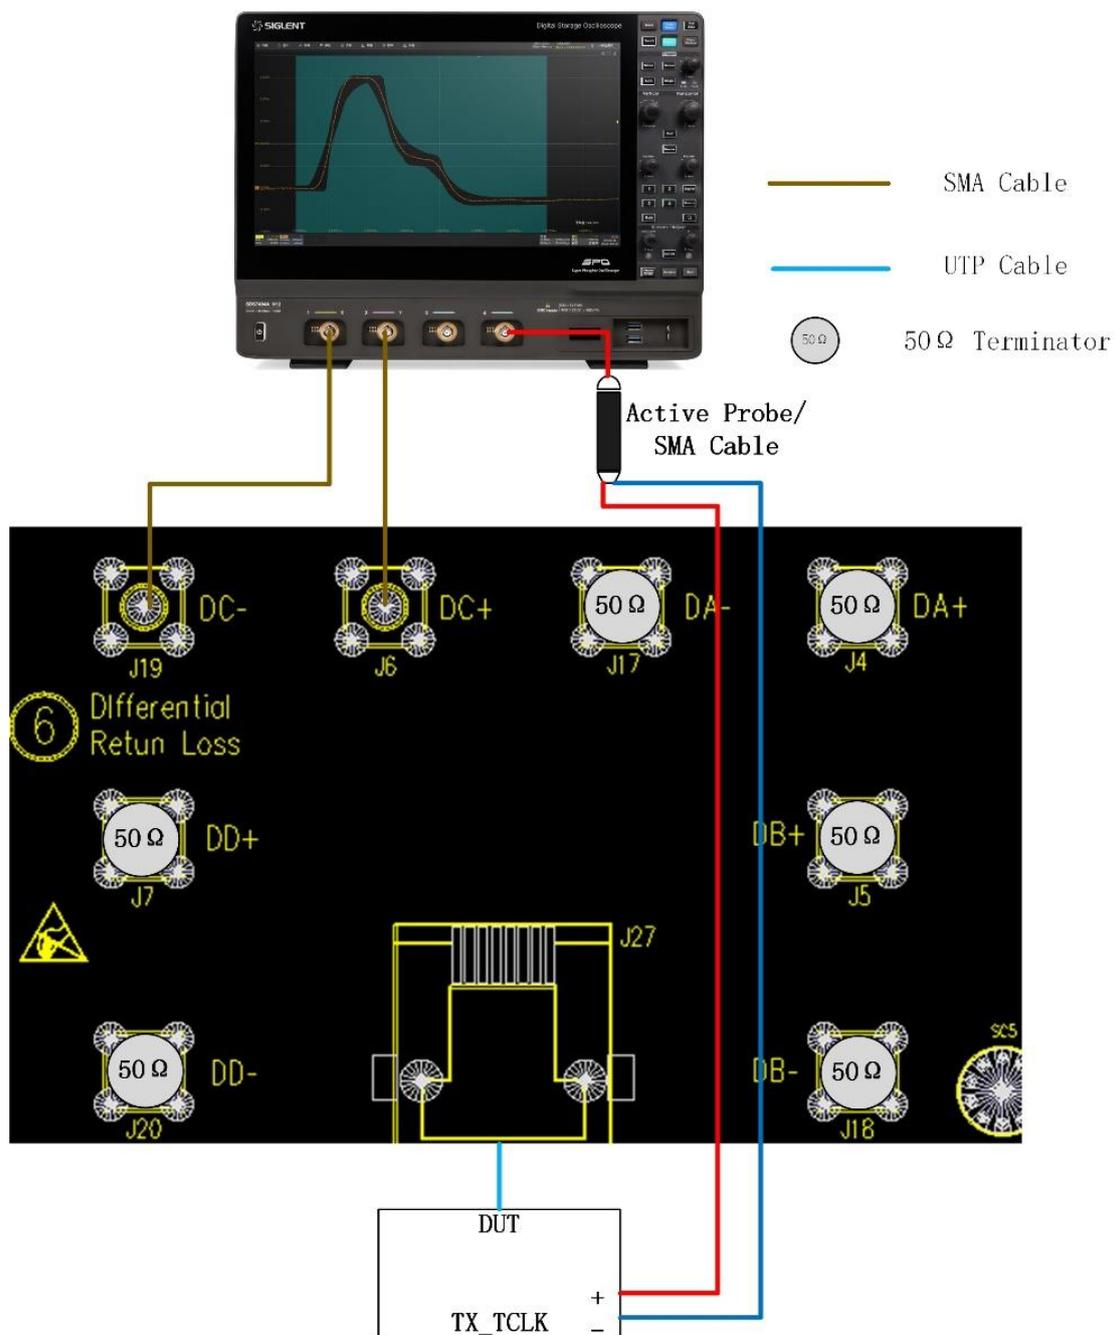

Figure 10-3 Connection of section ⑥ on test fixture for Master Mode JTXOUT test
The connection with section ⑥ on the test fixture which supports SMA cables to probe the MDI signal, which is shown as Figure 10-3, the test step is as follows:
- (1) Use a short UTP cable to connect the DUT to the J27 connector on section ⑥ of the test fixture.
- (2) According to the signal pair being tested, using two SMA cables with equal length to connect the corresponding test points {DA(J17, J4), DB(J5, J18), DC(J6, J19), DD(J7, J20)} on section ⑥ of test fixture to two input channels of the oscilloscope.
- (3) Connect the other unused test points on section ⑥ of the test fixture to 50Ω terminators.
- (4) Connect the DUT's TX_TCLK to one input channel of the oscilloscope by using an active probe